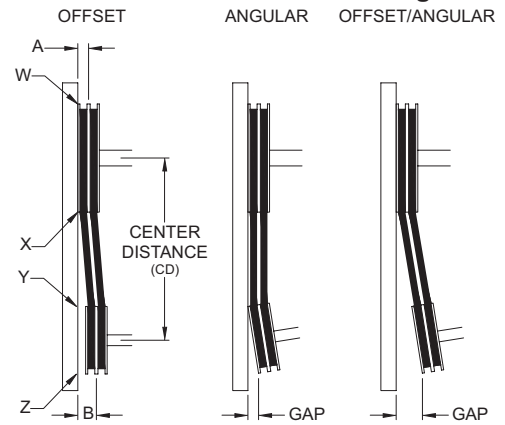
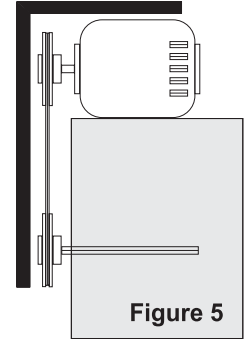

Figure 4
Figure 5
4. Ensure pulleys are properly aligned. Refer to *Figure 4*.
*Figure 4* indicates where to measure the allowable gap for the drive alignment tolerance. All contact points (indicated by WXYZ) are to have a gap less than the tolerance shown in the table. When the pulleys are not the same width, the allowable gap must be adjusted by half of the difference in width. *Figure 5* illustrates using a carpenter's square to adjust the position of the motor pulley until the belt is parallel to the longer leg of the square.